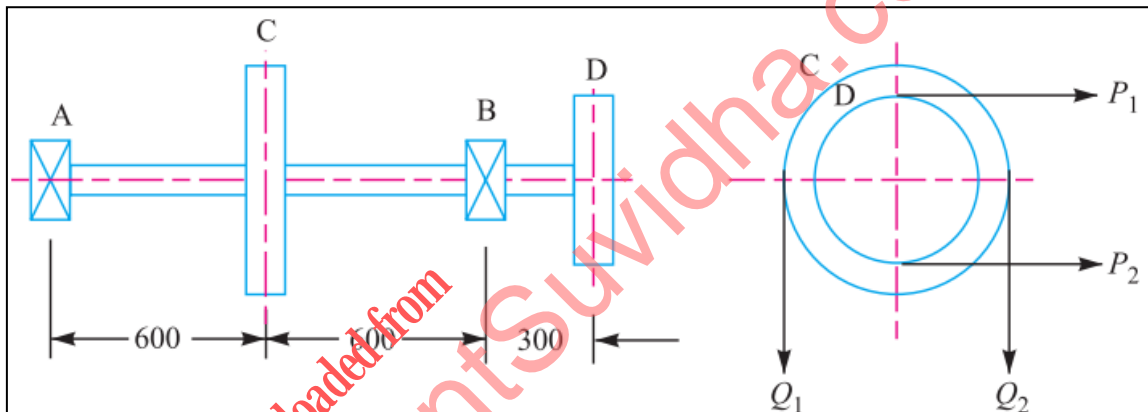

Fig. 1 (Que. 3 (a))
- Q.3** (a) A horizontal shaft AD supported in bearings at A and B and carrying pulleys at C and D is to transmit 75 kW at 500 r.p.m. from drive pulley D to off-take pulley C, as shown in Fig 1. Calculate the diameter of shaft. The data given is :  $P_1 = 2 P_2$  (both horizontal),  $Q_1 = 2 Q_2$  (both vertical), radius of pulley C = 220 mm, radius of pulley D = 160 mm, allowable shear stress = 45 MPa. **10**